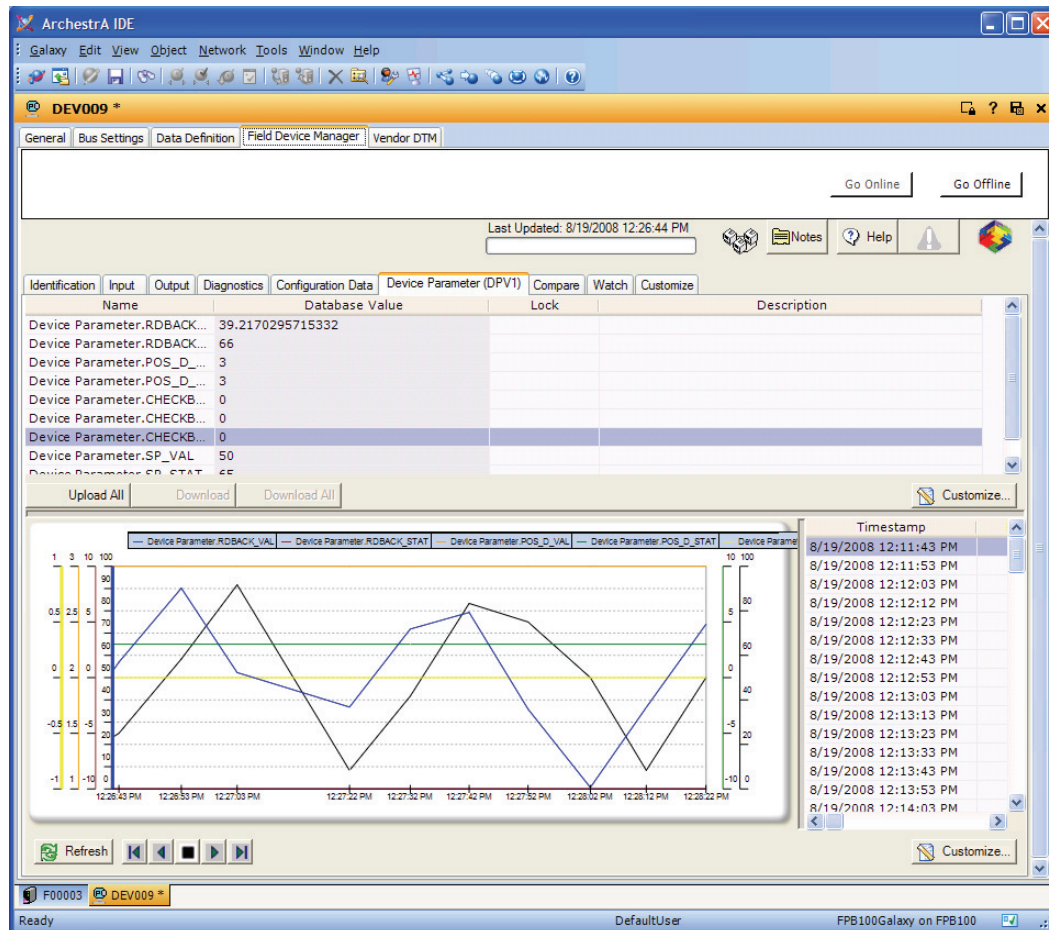

Figure 10. The Device Parameter (DPV1) Tab Enables Downloads to DPV1 Devices and Trend Displays of Up to Eight Device Parameters
- ▶ Device Parameter (DPV1) tab displays selected device parameters in a grid format and a trend display (Figure 10). The tab enables upload and download of parameters that are defined as writable.